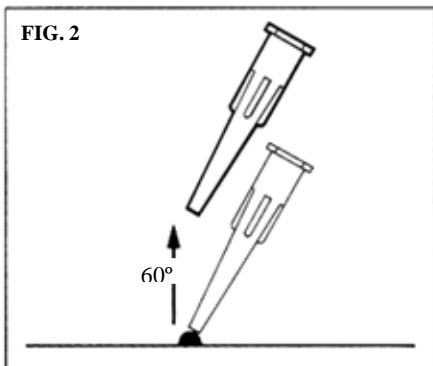

FIG. 2
2. After making deposit remove tip as shown (Fig. 2).